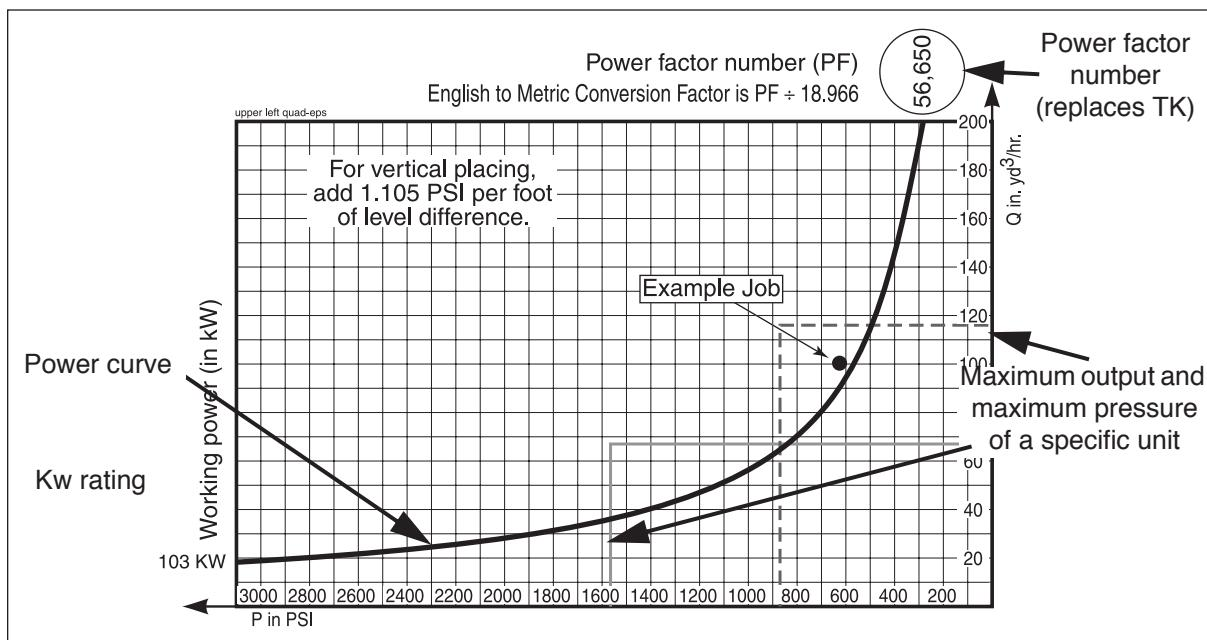

Figure 3
1. The **upper left quadrant** describes the power curve of a given hydraulic pump Kw rating and the maximum output and maximum pressure of a particular model of concrete pump (Figure 3).
Maximum pressure (abbreviated as max P) is determined by the size of the differential and material cylinders and the setting of the main relief valve. To be sure that the unit will handle the job, be careful to notice max P and max Q. Here is an example of why that is important: You contract to pump a job that requires only 20 yards per hour, but you calculate that you will need 2100 PSI pressure. The PF of this job is 42,000 (20×2100). The pump shown in Figure 3 has a TK of 72,600, so there is enough power available. However, the maximum pressure available from the pump is only 1570 PSI. This pump would not do the job.